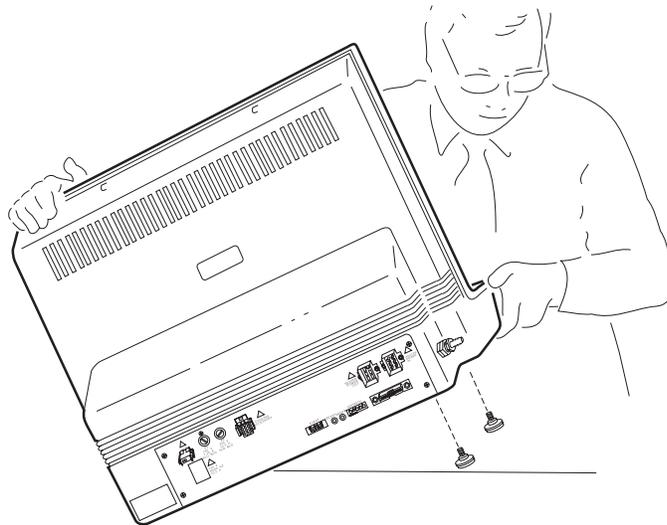

Figure 2.3
8. Have your assistant lift one side of the unit while you use a wrench to install two mounting feet on the other side (see Figure 2.3). Rotate the unit and install the two remaining mounting feet in the same manner.